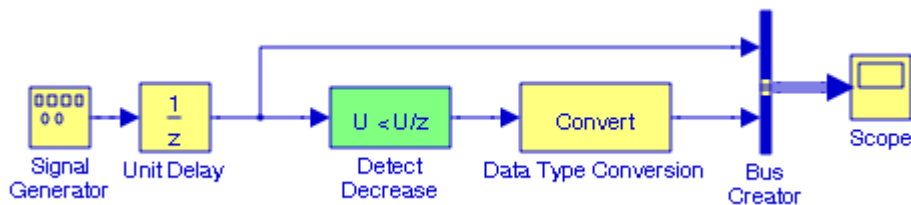

Figure 6.17. Model for Example 6.13
The model is shown in Figure 6.17 and the input and output waveforms are shown in Figure 6.18. In Figure 6.17, the **Signal Generator** block is set for a square waveform of amplitude 1 and frequency 0.5, the **Unit Delay** block is included to delay the Signal Generator block one time unit, the **Detect Decrease** block initial value is set to 0, and the **Convert** Block is used to convert the output signal of the **Detect Change** block from uint(8) to double. The waveforms in Figure 6.18 indicate that the output waveform is true (not 0), when the input signal is less than its previous value, and the output is false (equal to 0), when the input signal is greater than or equal to its previous value.